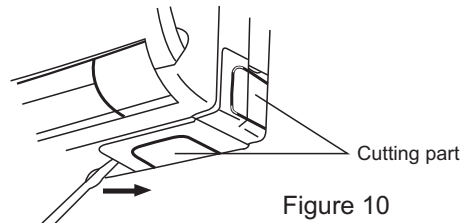

Figure 10
- 2) Unload the bottom cover of indoor unit with flat screw driver, and according to direction of lining tube, leave the cutting part of left bottom or right bottom cover with saw. (figure 10)